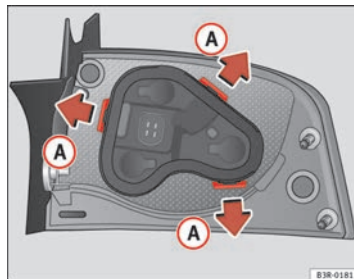

Fig. 215 Retaining tabs on reverse side of rear light
- Release the retaining tabs ⇒ fig. 215 A.